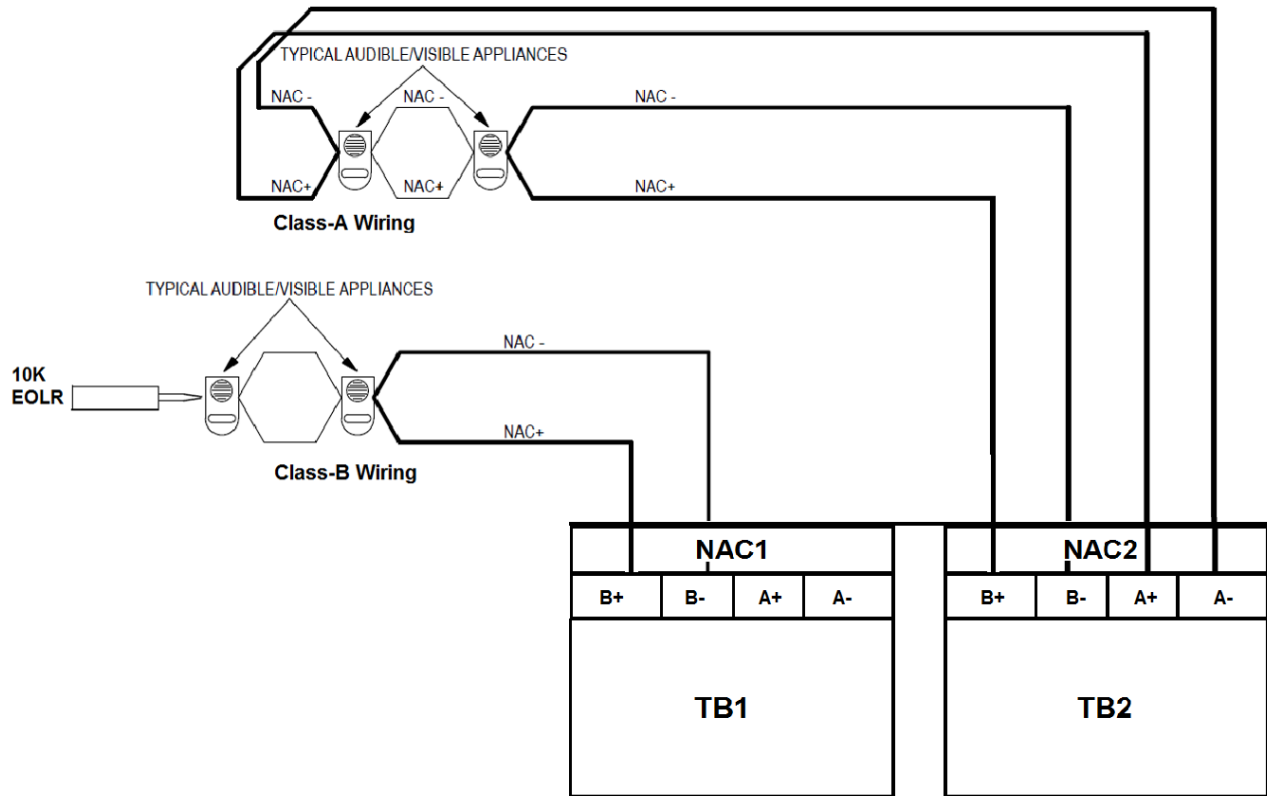

Figure 11: NAC wiring
1. Route the wire from the **B+ B-** terminals of the system board to the appropriate inputs on a peripheral notification appliance. See Figure 11.